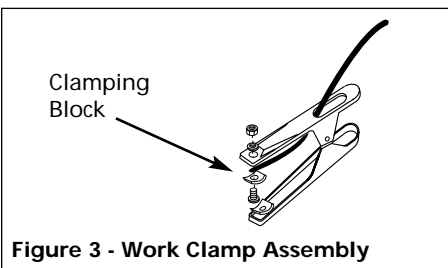

Figure 3 - Work Clamp Assembly
2. Insert cord through clamp handle and slide bare wire under the clamp block. Tighten hex nut making sure bare wire is clamped securely (Figure 3).